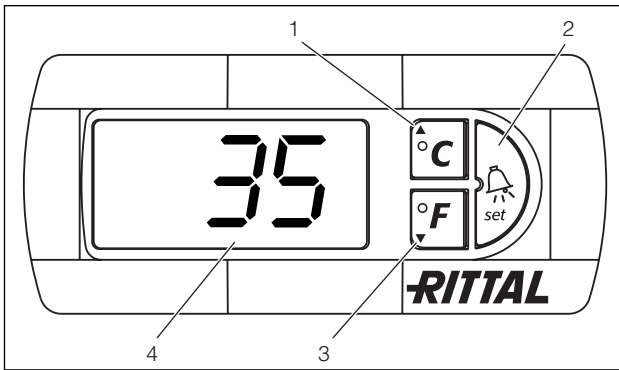

Fig. 38: Comfort controller
The Comfort controller has a 7-segment display (Fig. 38, no. 4). After switching on the power supply, the current software version is initially displayed for approximately 2 sec., followed by a preset option (e.g. t10) or the temperature.
In regular operation, the display shows both the temperature (in degrees Celsius or Fahrenheit – users may switch between the two) and any error messages. The current enclosure internal temperature is usually displayed permanently. In the event of an error message, this will alternate with the temperature display. The unit is programmed using buttons 1 – 3 (Fig. 38). The relevant parameters also appear in the display.
- Simultaneously press buttons 1 and 2 (Fig. 38) for at least 5 sec.
Using buttons 1, 2 and 3 (Fig. 38) you can change 24 parameters within the preset ranges (min. value – max. value).